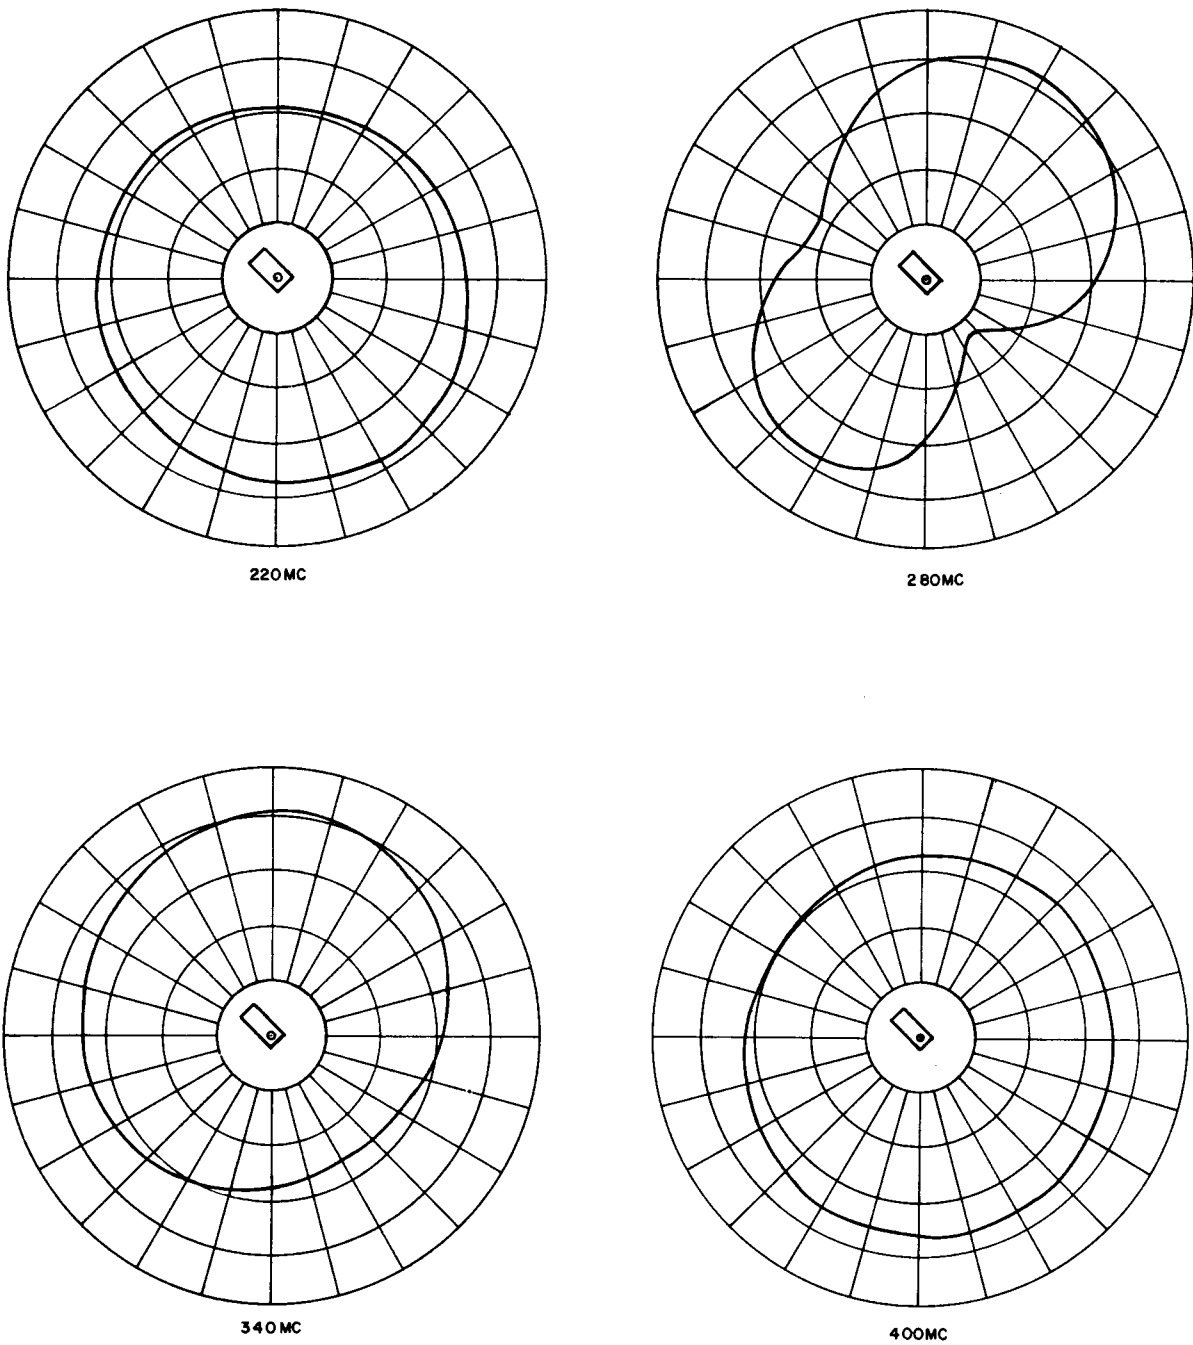
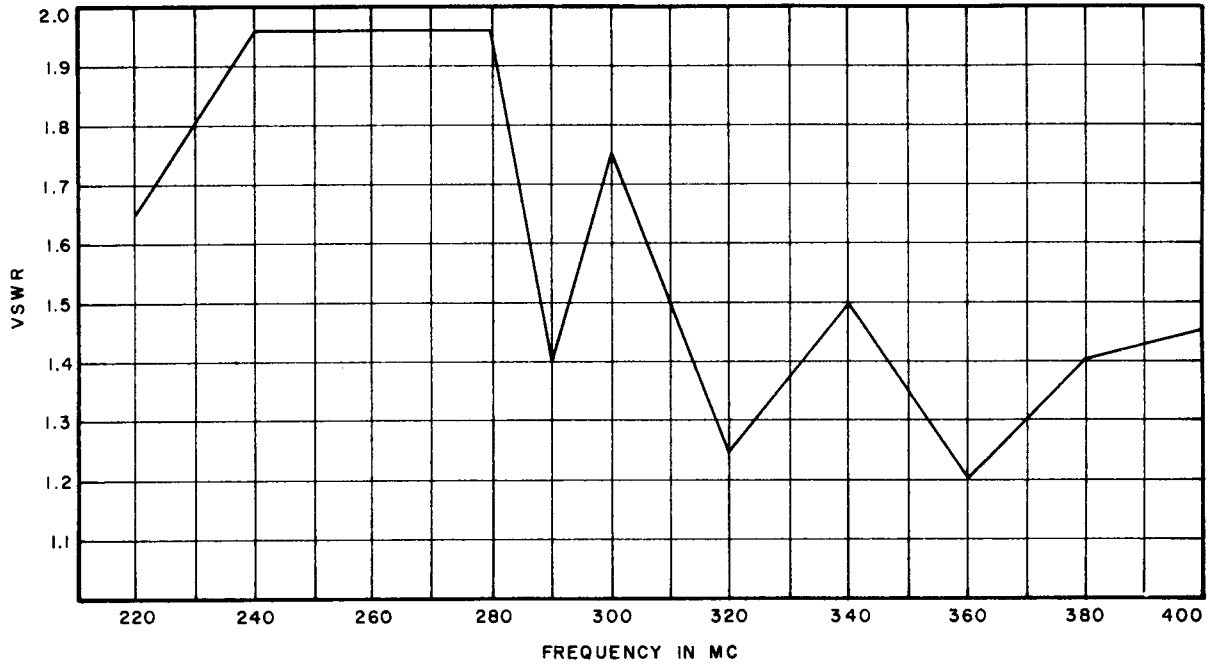

Figure 4-17. Antenna AS-1404/PRC-41, Azimuthal Plane Voltage Pattern
Figure 4-18. Antenna AS-1404/PRC-41, Voltage Standing-Wave Ratio
(2) ANTENNA AS-1404/PRC-41. - Antenna AS-1404/PRC-41 is used with Radio Receiver-Transmitter RT-695/PRC-41 for reception and transmission of signals in the 225.0- to 399.9-mc range without electrical or physical adjustments. The AS-1404/ PRC-41 has a nominal input impedance of 50 ohms. The azimuthal plane voltage patterns are shown in figure 4-17 for several frequencies in the range. These patterns apply when the AS-1404/PRC-41 is mounted and operated on the RT-695/PRC-41. The voltage standing-wave ratios for frequencies between 220 and 400 mc are shown in figure 4-18 when the AS-1404/PRC-41 is mounted and operated on the RT-695/PRC-41. When Antenna AS-1404/PRC-41 is operated on Mast AB-777/PRC-41, the voltage standing-wave ratio properties and the voltage patterns are approximately the same as when operated on the RT-695/PRC-41.